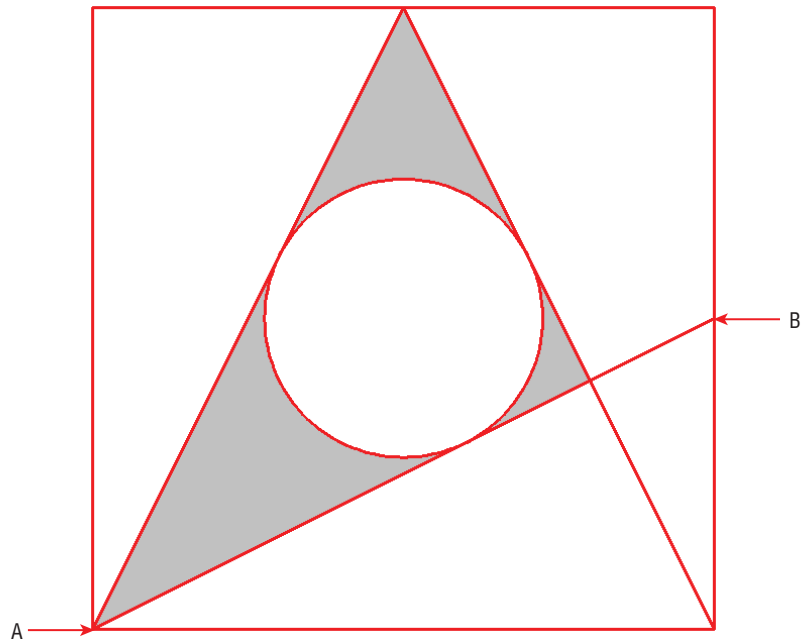

FIGURE 11.10 Measuring the distance between two points
3. Toggle on Dynamic Input on the status bar. Click the Distance tool in the Utilities panel of the Home tab on the ribbon. Click points A and B, as shown in Figure 11.10. The distance 5.000 is shown onscreen, and the command prompt reads:
7. Type **DIMCONTINUE** (for Dimension Continue), and press Enter. Click point A, as shown in Figure 11.10, to add another linear dimension below the previous one. Press Esc to end the command.